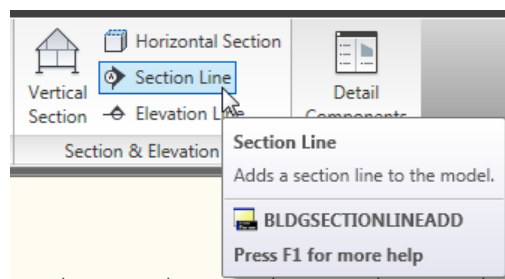

Figure 6.74
5. On the Home tab, on the Sections & Elevations panel, click the Section Line tool (see Figure 6.74).